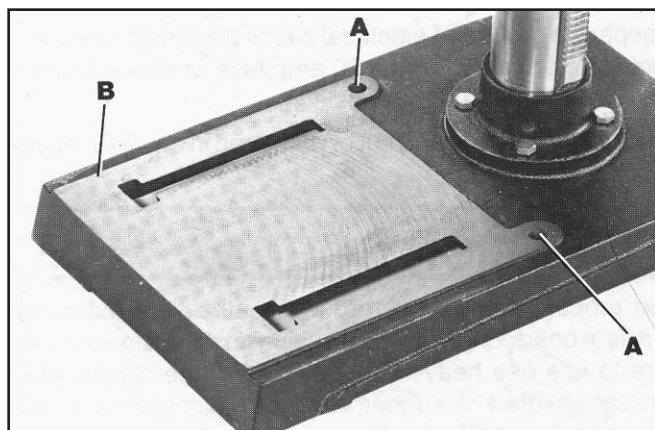
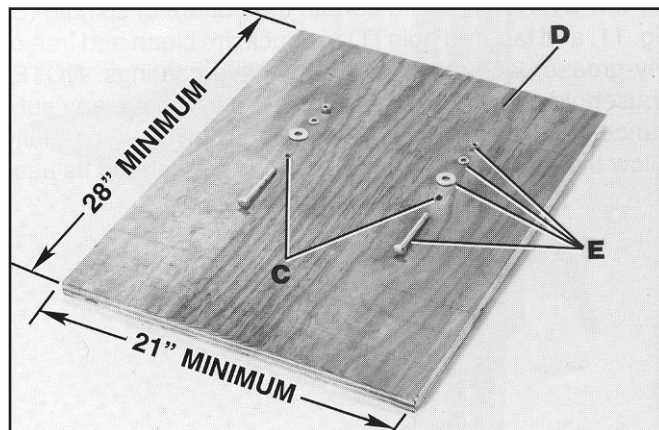

Fig. 12A
Fig. 12B
(A) Fig. 12A, in the drill press base (B).
1. Drill two 3/8" diameter holes (C) Fig. 12B, corresponding to the mounting holes (A) Fig. 12A, of the drill press base in a 21" by 28" minimum size plywood board (D) Fig. 12B.
2. Fasten the drill press base to the mounting board using the carriage bolts, nuts, and washers (E) Fig. 12B, furnished with your drill press. The carriage bolt heads must be countersunk such that the bolt heads are flush with the bottom surface of the mounting board in order to guarantee proper stability.